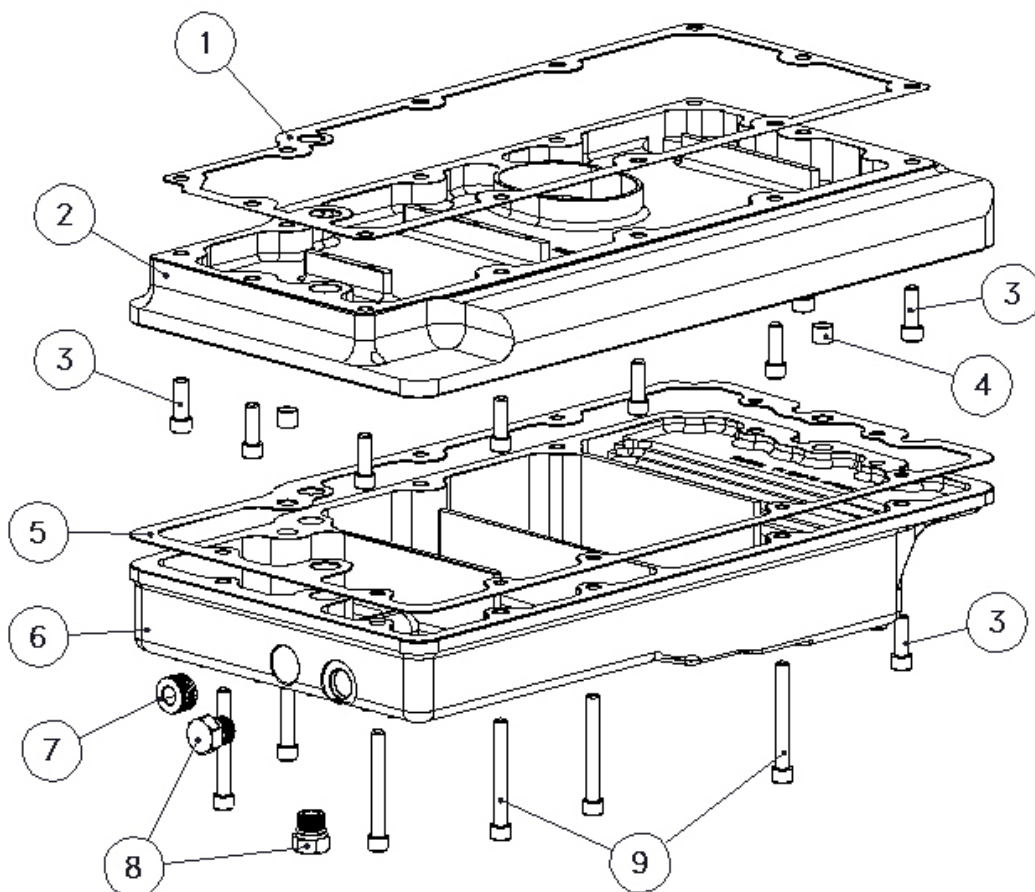

FIGURE 1
1. Make sure and wipe down the gasket surface area of the transmission with some brake cleaner using a lint free rag. Referring to the exploded view (figure 1) get the top pan bolts (9pcs of 1/4-20x.750" SHCS) ready by applying Blue Loctite® to the threads.
5. After the bottom pan is in position and seated with the gasket aligned install the bottom pan bolts referring to figure 1. Snug and torque to 110-130 in-lbs referencing figure 10.